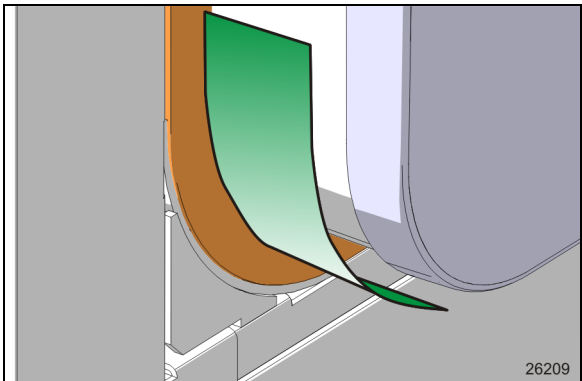

FIGURE 20: PLASTIC SHEET-WIPER SEAL PROTECTION
12. Protect the wiper seal by inserting a polypropylene plastic sheet between the room and the wiper seal. Do this on both bottom corners (Figure 20). This will distribute the compression of the wiper seal on a wider zone and prevent the room exterior panel corner from binding or pulling on the wiper seal.